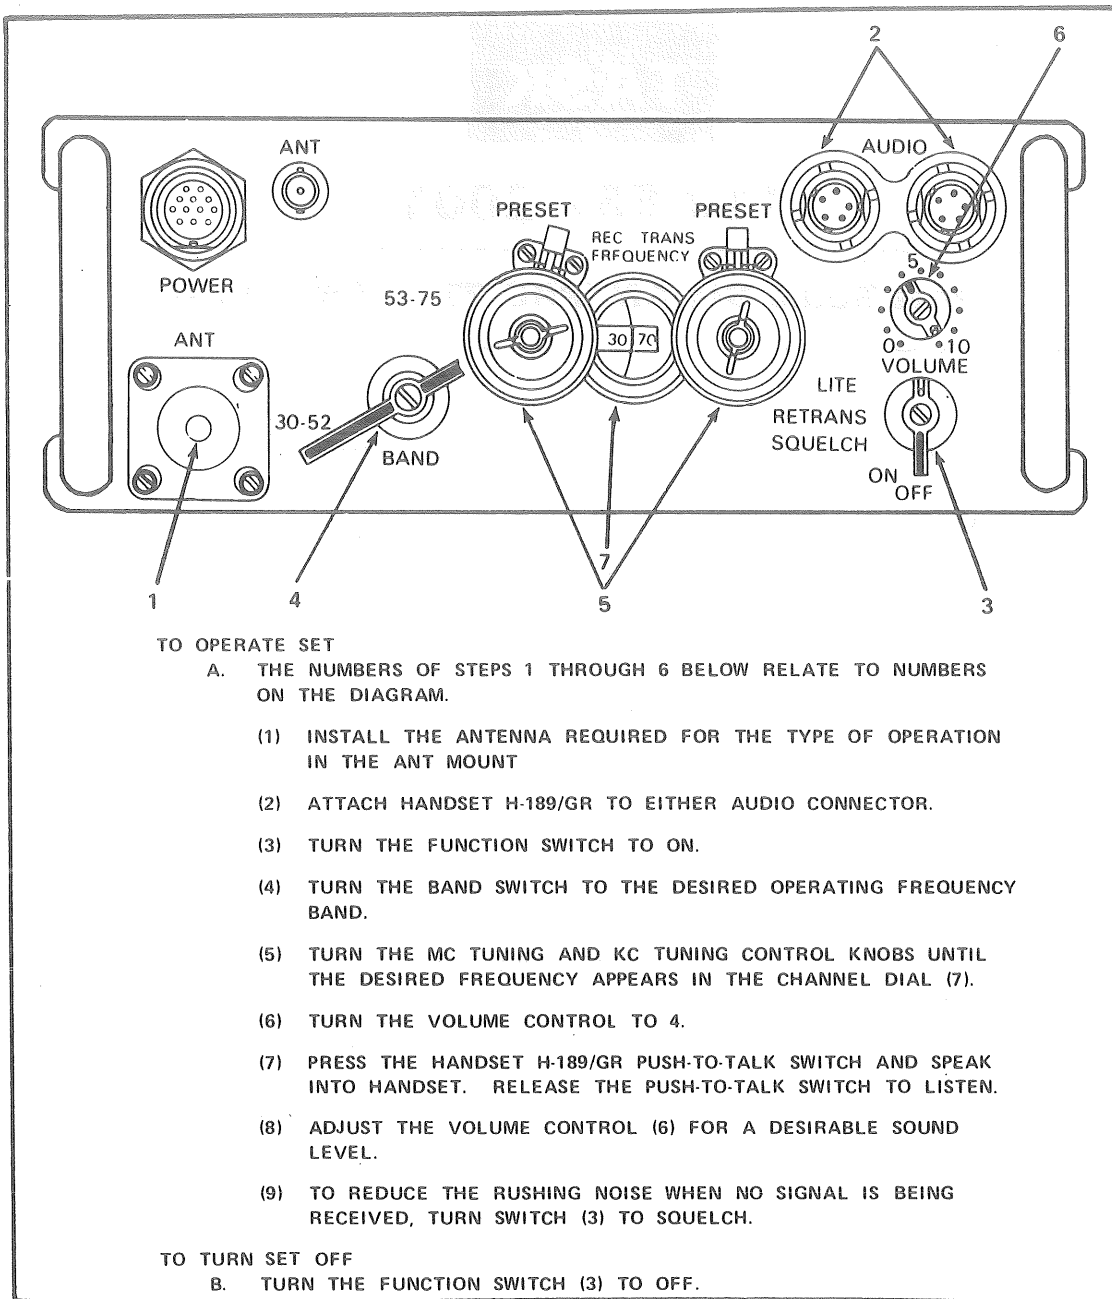

Figure 1. Condensed operating instructions for Radio Set AN/PRC-77.
This task has been performed correctly when, in 3 minutes, the radio set has been aligned in accordance with the requirements in figure 1, and the radio set has been placed into and taken out of operation in accordance with performance measures 1 through 3.
2. Set frequency using megahertz (MHz) and kilohertz (kHz) tuning control knobs. (Refer to fig 1 and TM 11-5820-667-12, para 3-2.)
3. Perform stopping procedures. (Refer to fig 1 and TM 11-5820-667-12, para 3-5.)